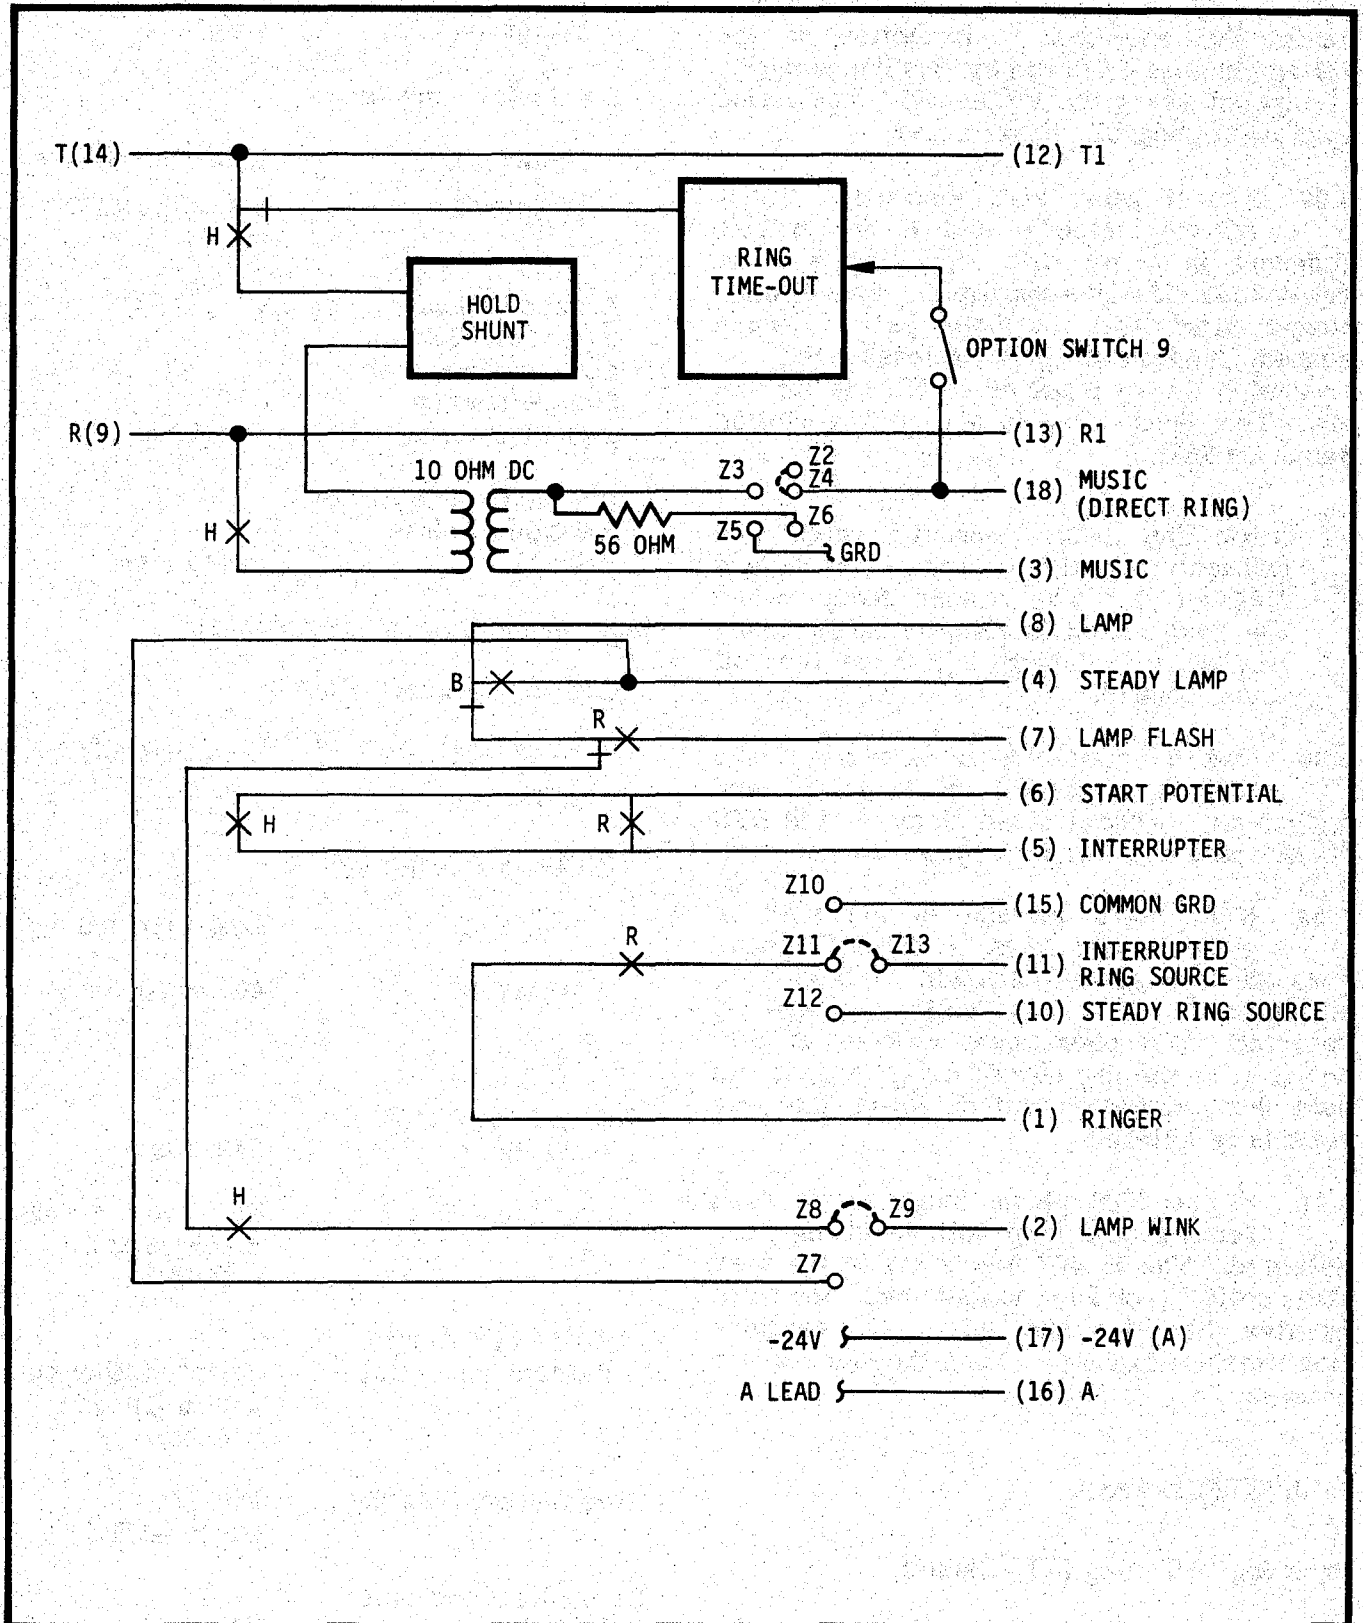

Figure 5 Simplified Block Diagram
**6.01** The M-487 provides full line card functions and off-premises telephone supervision while maintaining uninterrupted Tip and Ring connections to the KTU. Power is fed from the KTU -24 V (A) supply. Local power failure does not interrupt outgoing calls. Refer to Figure 5 during the following description of M-487 operation.